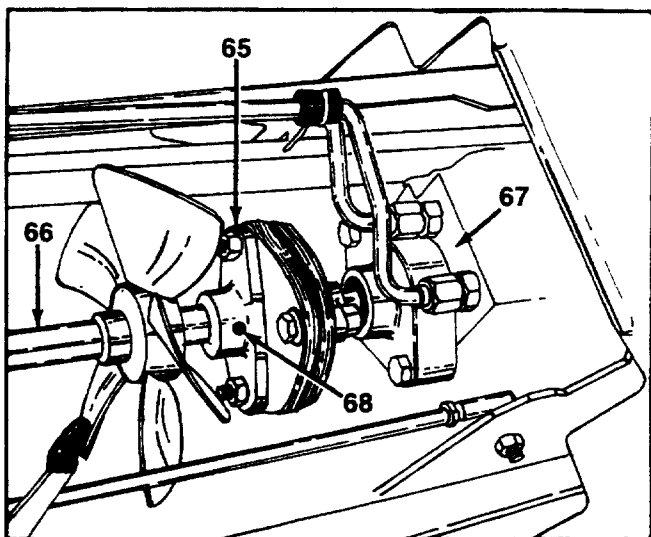

FIGURE 33.
36. Remove the roll pin in the drive shaft flange at the rear of the tractor. See figure 33.